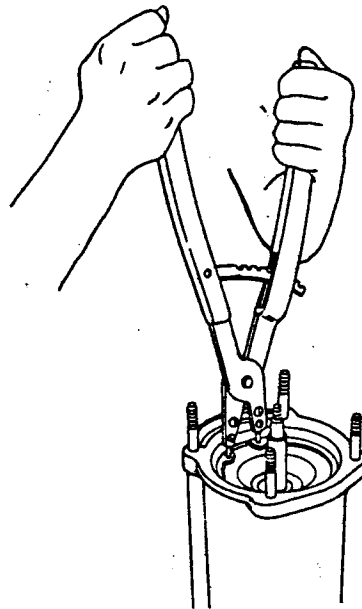

Figure 4. Removing Intermediate Bracket Retaining Ring
With the pump end disassembled and the motor cavity drained, use large snap-ring pliers to remove the retaining ring (45) securing the intermediate (46) in the motor housing (see Figure 4). If necessary, tap around the parting surfaces with a soft faced mallet to break the seal between the intermediate and motor housing. Remove the intermediate and discard the intermediate O-ring (32). Remove the motor bushing (30).